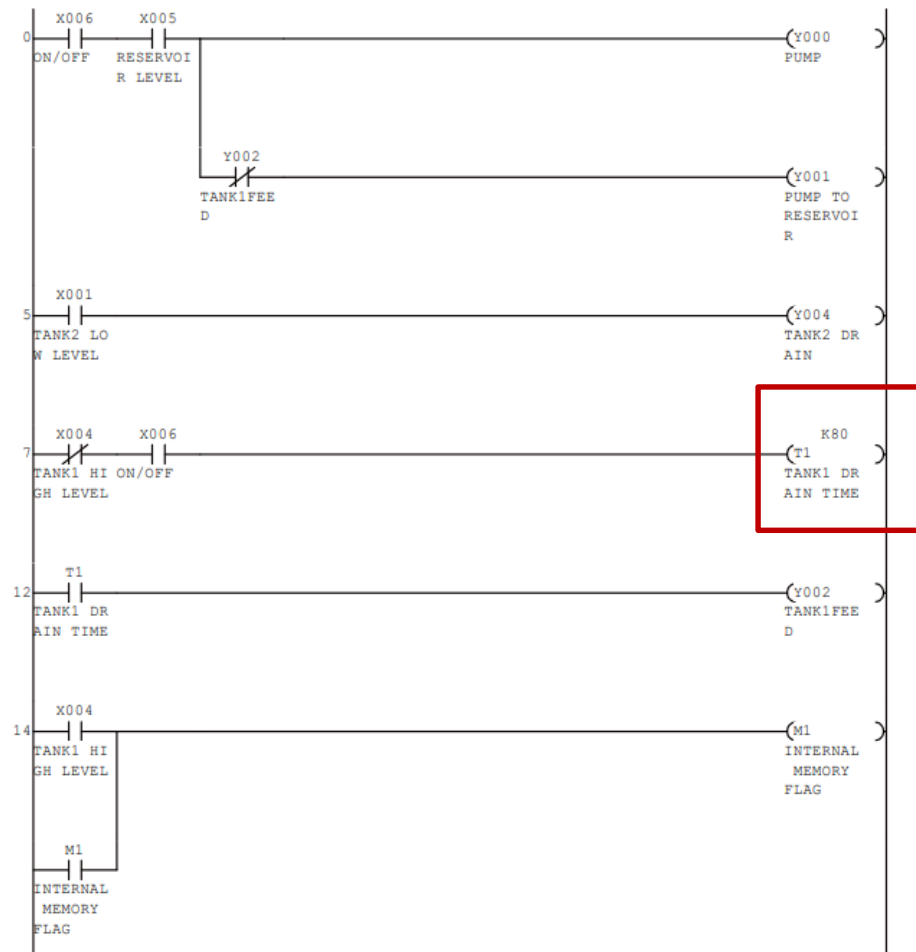

Figure 12: Edit timer constant.
8. Change the value of T1 constant to 50. Double click the timer in the program to edit, as seen in Figure 12. Now, the tank will drain for 5 seconds before it refills.